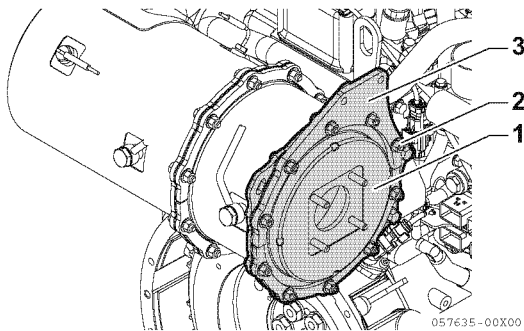

Figure 13-13
- Remove the M8 bolts and flange nuts (Figure 13-13, (2)) (8 or 10 of each) that fix the silencer (or outlet flange) (Figure 13-13, (1): in this diagram, outlet flange).